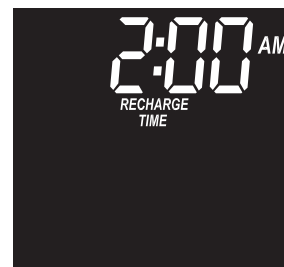

FIG. 26
1. Press the PROGRAM button and hold for three seconds, until the "Recharge Time" screen (Figure 26) is displayed.